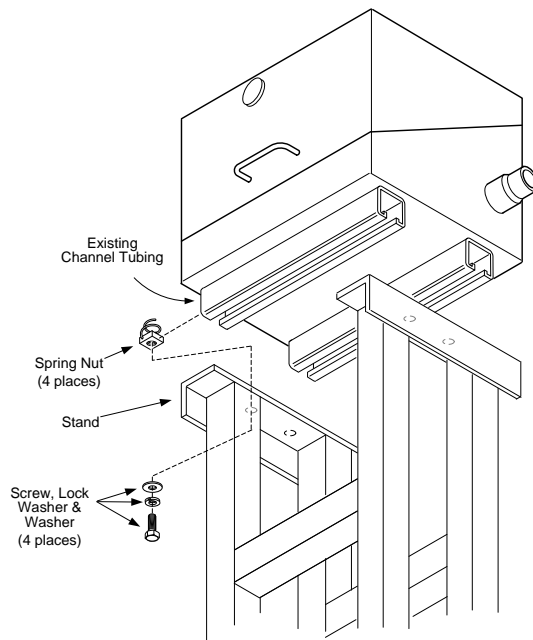

Figure 3-8 ENC82S-Enclosure Mounting Hardware
- 3) Place a split washer, then a flat washer on one of the 1 ¼" bolts and insert through bolt hole located in the angle iron into the outermost corner of the enclosure (see Figure 3-8).